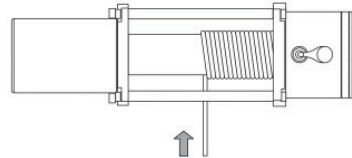

Fig. 7
6. While standing outside of the tow path, push the button on the remote forward and backward (Fig. 6 and Fig. 7) to check winch running directions. Wait until the motor stops before reversing directions.